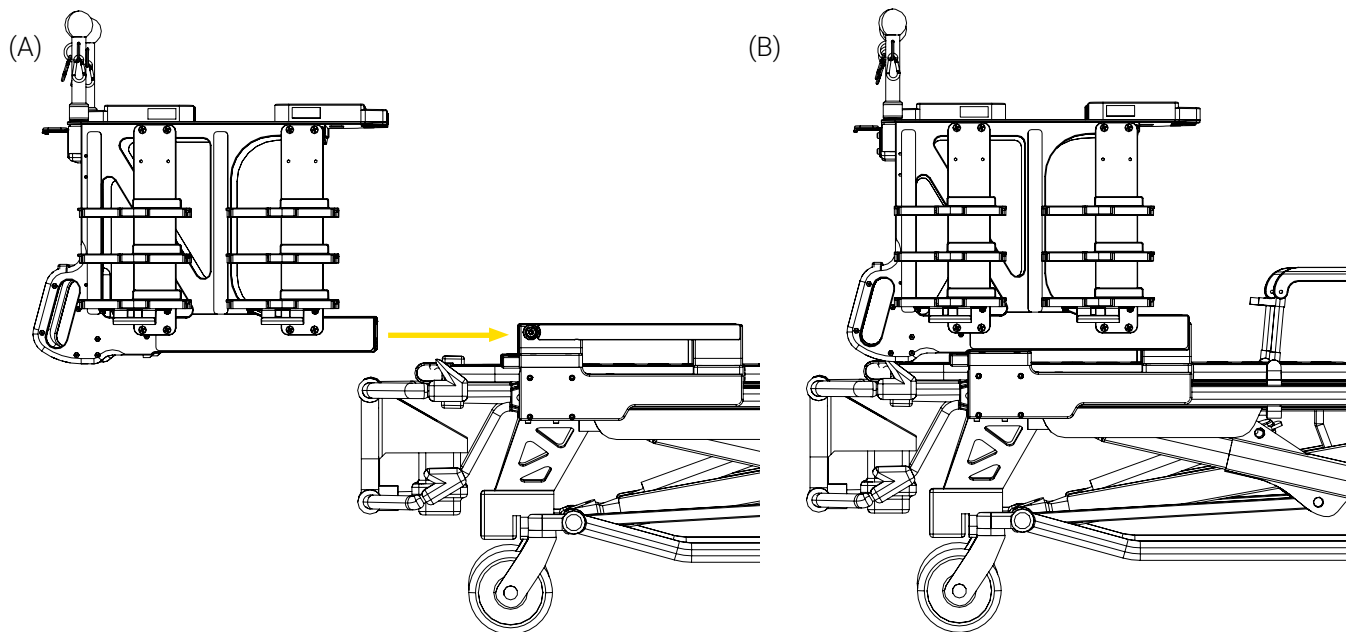

Figure 25: Installing the mobile structure on the rail system
- Align and insert the mobile structure on the rail system (Figure 25), then move the mobile structure back-and-forth a few times using the handles, until the gliding feels fluid and you no longer feel resistance.